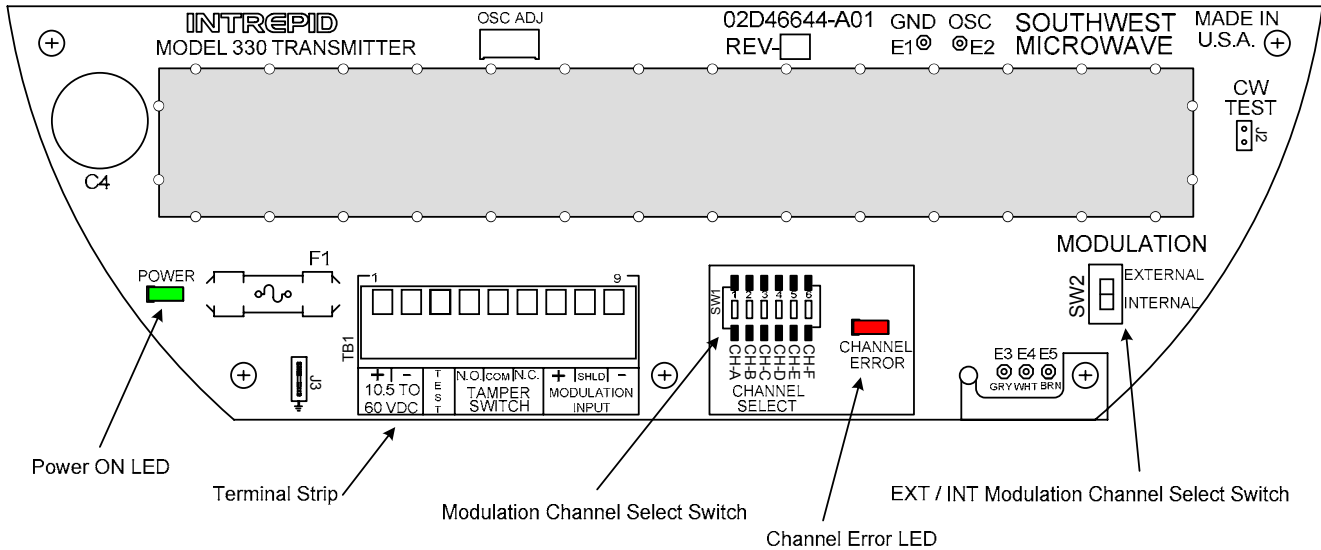

Figure 27 – MicroWave 330T Transmitter
The electrical connections, switches and indicators for the MicroWave 330T transmitter are shown in Figure 27.
3. Make connections to the terminal strip according to labeled terminal functions as shown in Figure 27.